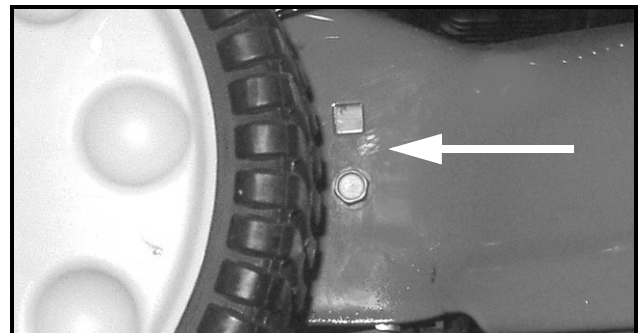

FIGURE 2
5. Position the height adjuster so that the front wheels allow access to the front deck baffle screws. See Figure 2.